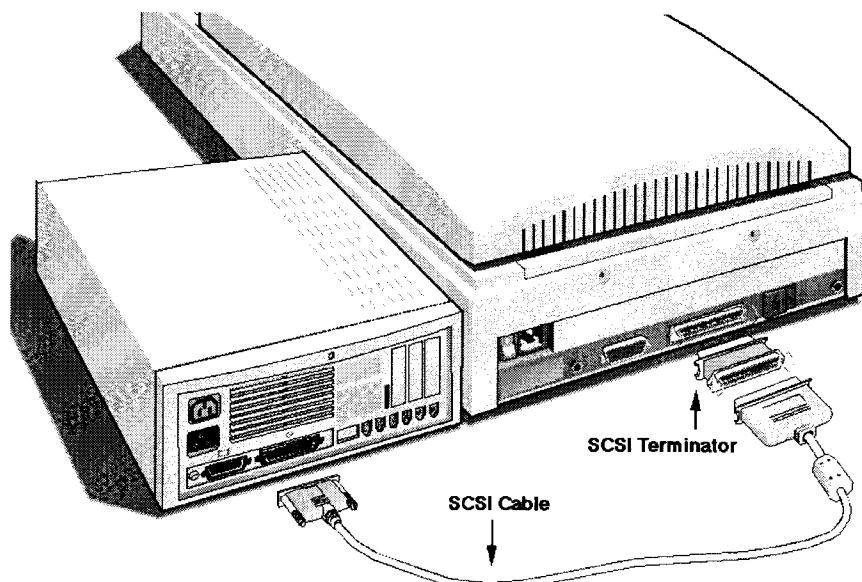

Fig. 3.2
3. Connect the other side of the SCSI cable to the terminator that is placed on the 50-pin SCSI port of the densitometer (Figure 3.2).